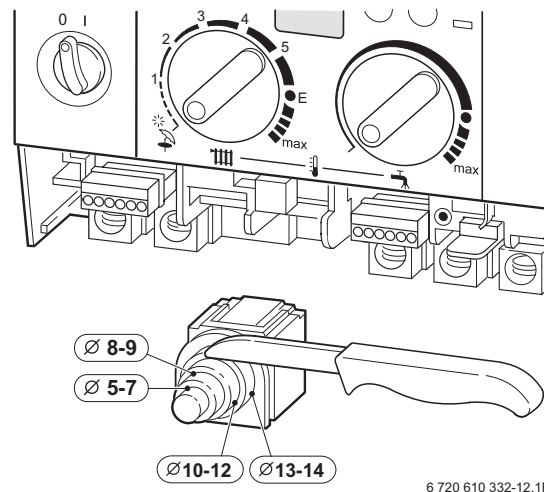

Fig. 29
- ▶ To make splash-water proof (IP): cut the cable grommet hole size to match diameter of cable, see Fig. 29.